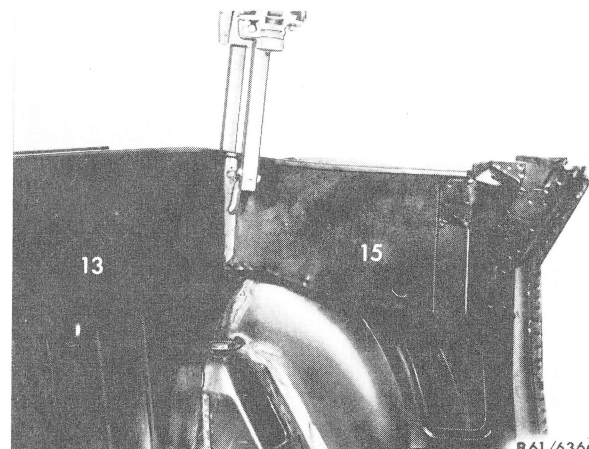

Fig. 10
28 Spot weld rear wall (13) to top well side member (15) (Fig. 10).